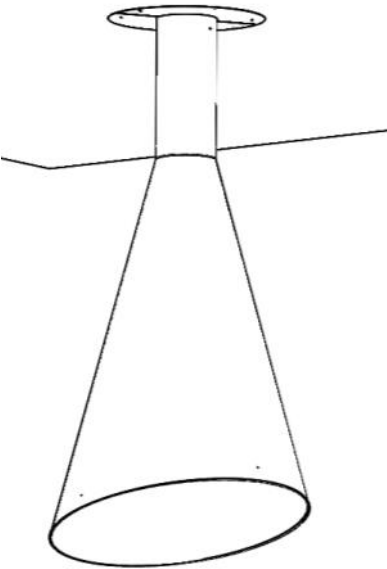

**Figure 6**— Tube tightening with bolts
After the part (K) is fixed to the ceiling and the set (L) is completely assembled, place the set (L) on the part (K), tighten with the supplied bolts, as shown in figure 6. Check that the assembly is well placed and tight.